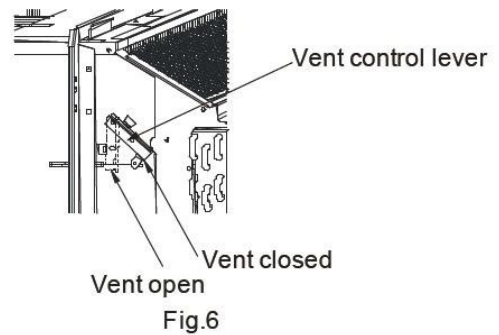

Fig.6
- Rotate the vent control lever to either open or close the vent door. (See Fig. 6)
- Rotate the vent control lever to open the vent door. (See Fig.6)